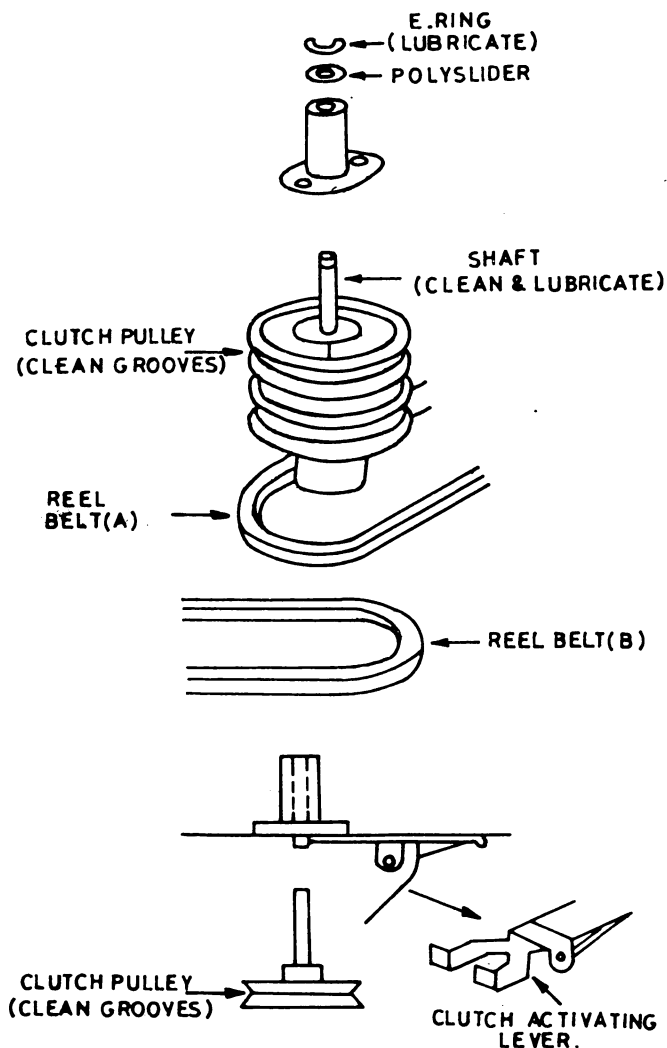

Fig. 10.7 Clutch pulley cleaning and lubrication
1. Remove the E-ring and polyslider from the clutch pulley as shown in fig. 10.7